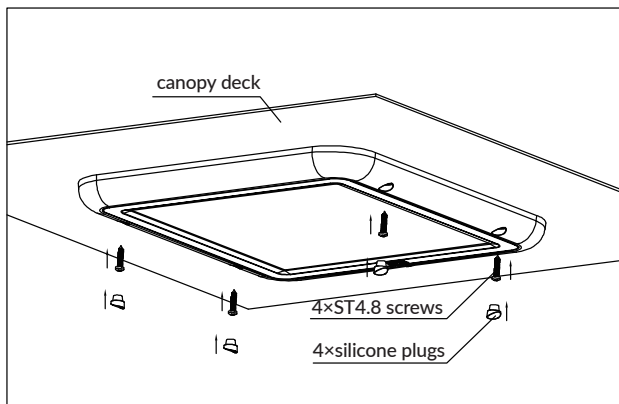

Figure 3
- Fix the Luminaire Part to the canopy deck using the ST 4.8 Self-tapping Screws. Tip: For thicker canopy, pre-drill a 1/8" pilot hole to penetrate easily. Apply the Silicone Plugs over the screw holes from front of the Luminaire Part (Figure 3).